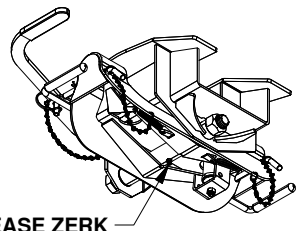

Figure J1: Underside
- Grease the saddle through the grease zerk approximately every six months with multi-purpose grease. this allows the coupler to pivot freely, see figure J1.